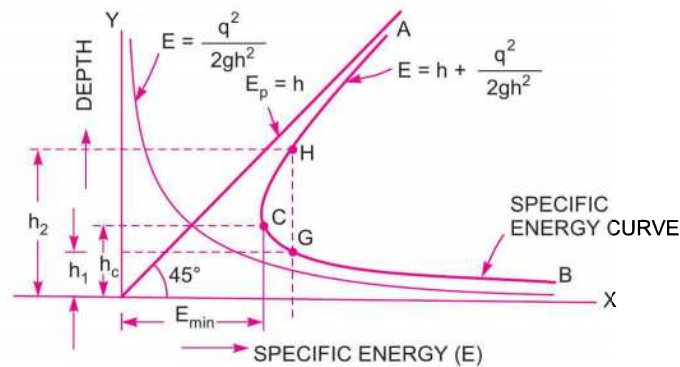

Fig. 16.26 Specific energy curve.
The specific energy curve may also be obtained by first drawing a curve for potential energy (i.e.,  $E_p = h$ ), which will be a straight line passing through the origin, making an angle of  $45^\circ$  with the  $X$  - axis as shown in Fig. 16.26. Then drawing another curve for kinetic energy (i.e.,  $E_k = \frac{q^2}{2gh^2}$  or  $E_k = \frac{K}{h^2}$ ,
where  $K = \frac{q^2}{2g} = \text{constant}$ ) which will be a parabola as shown in Fig. 16.26. By combining these two curves, we can obtain the specific energy curve. In Fig. 16.26, curve  $ACB$  denotes the specific energy curve.
**16.7.1 Critical Depth ( $h_c$ ).** Critical depth is defined as that depth of flow of water at which the specific energy is minimum. This is denoted by ' $h_c$ '. In Fig. 16.26, curve  $ACB$  is a specific energy curve and point  $C$  corresponds to the minimum specific energy. The depth of flow of water at  $C$  is known as critical depth. The mathematical expression for critical depth is obtained by differentiating the specific energy equation (16.22) with respect to depth of flow and equating the same to zero.
**16.7.7 Alternate Depths.** In the specific energy curve shown in Fig. 16.26, the point C corresponds to the minimum specific energy and the depth of flow at C is called critical depth. For any other value of the specific energy, there are two depths, one greater than the critical depth and other smaller than the critical depth. These two depths for a given specific energy are called the alternate depths. These depths are shown as  $h_1$  and  $h_2$  in Fig. 16.26. Or the depths corresponding to points G and H in Fig. 16.26 are called alternate depths.